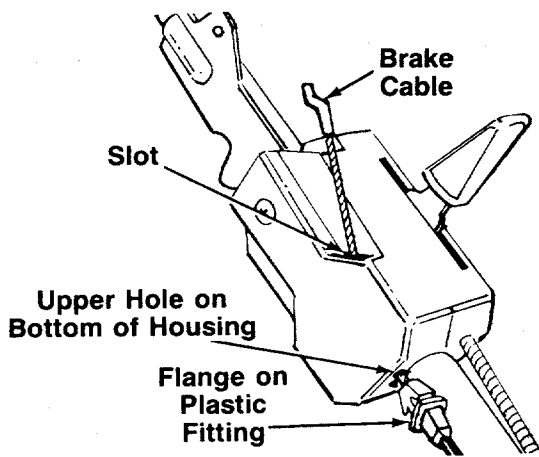

FIGURE 4.
6. The brake cable is attached to the engine. Route the brake cable through the opening beneath the catcher panel, inside the handle mount bracket and under the lower handle. Place the end of the brake cable into the upper hole on the bottom of the control housing, and through the slot in the side of the housing as shown in figure 4. The angle of the flange on the plastic fitting must be positioned downward as shown. Be careful not to bend or kink the cable.